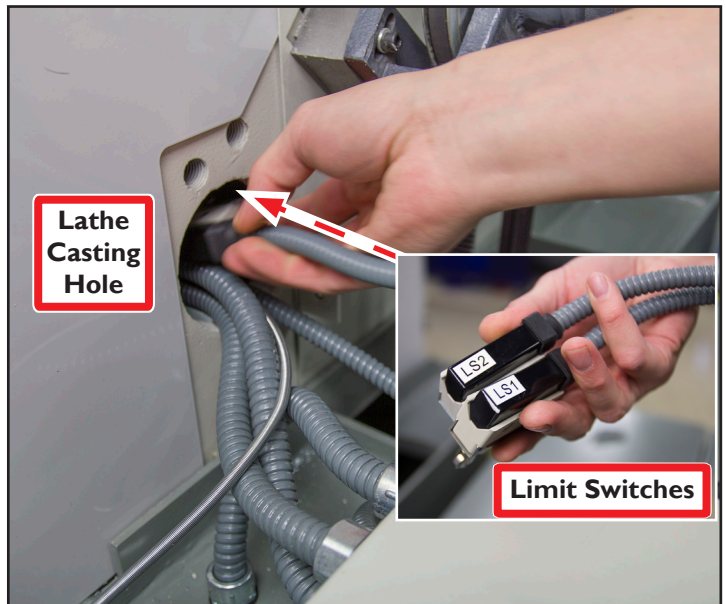

Figure 20
9. Locate two loose limit switches (LS1 and LS2 on lathe) and route them through Lathe Casting Hole and under Lathe Casting (see **Figures 20** and **21**).